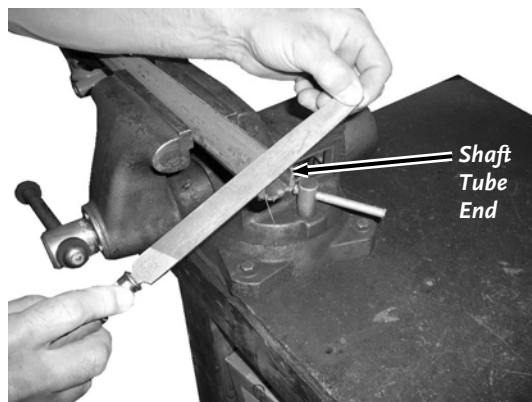

Figure 28
5. File or sand any burrs from the Shaft ends (**Figure 28**).